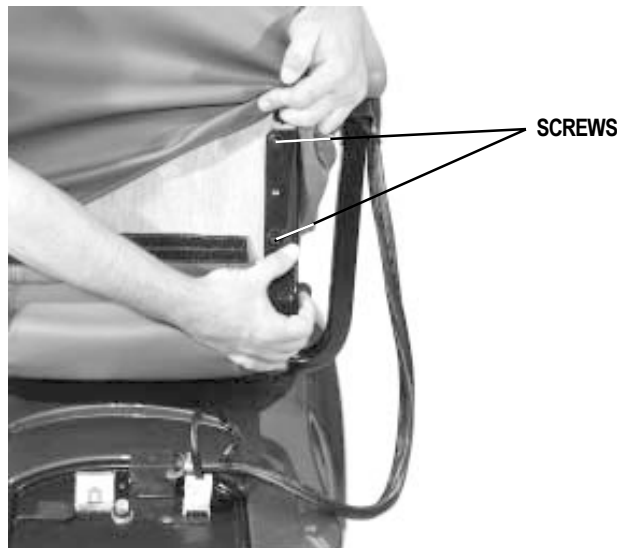

Figure 7. Seatback Assembly
The seatback mounts to the back hinges with four (4) Phillips-head screws. To get to the hinges, lift up the reusable fasteners that cover them in the back. See figure 7. You may install the seatback before or after you install the seat to the power base.
1. Line up the hinges with the holes in the seatback. See figure 7.